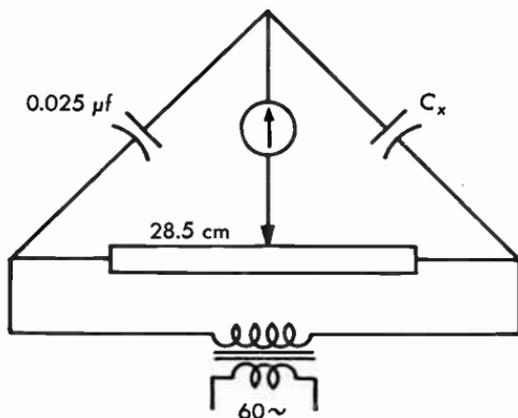

Fig. 12.09 Slide-wire bridge used to measure an unknown capacitance.
12.09 The slide-wire bridge of Figure 12.09 has a total length of 1 meter. Find the unknown capacitance C_x from the values indicated in Figure 12.09.